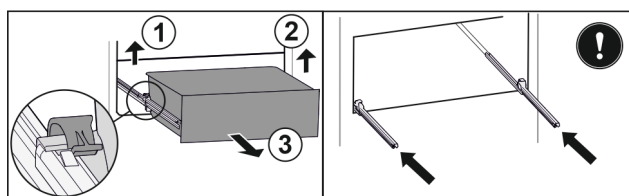

Fig. 224
- Lift left clamp and simultaneously pull drawer forwards on the left. Fig. 224 (1)
- Lift right clamp and simultaneously pull drawer forwards on the right. Fig. 224 (2)
- Remove drawer to the front. Fig. 224 (3)